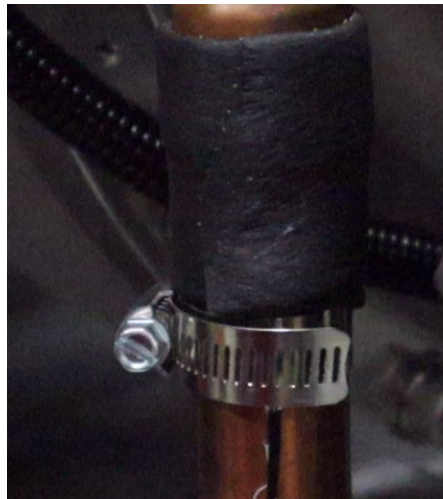

Figure 2 – Insulation Tape (first strip)
3. While holding the sensor in place, install the included hose clamp over the sensor location. Tighten the clamp to secure the sensor, do not overtighten. Refer to Figure 2
4. This kit includes three (3) strips of insulation tape. Apply one of the strips of insulation tape on the left side of the hose clamp covering the exposed sensor and wire. Wrap the insulation tape around the pipe and continue until all the tape is used. This tape should overlap itself completely. Refer to Figure 2 – Insulation Tape (first strip).